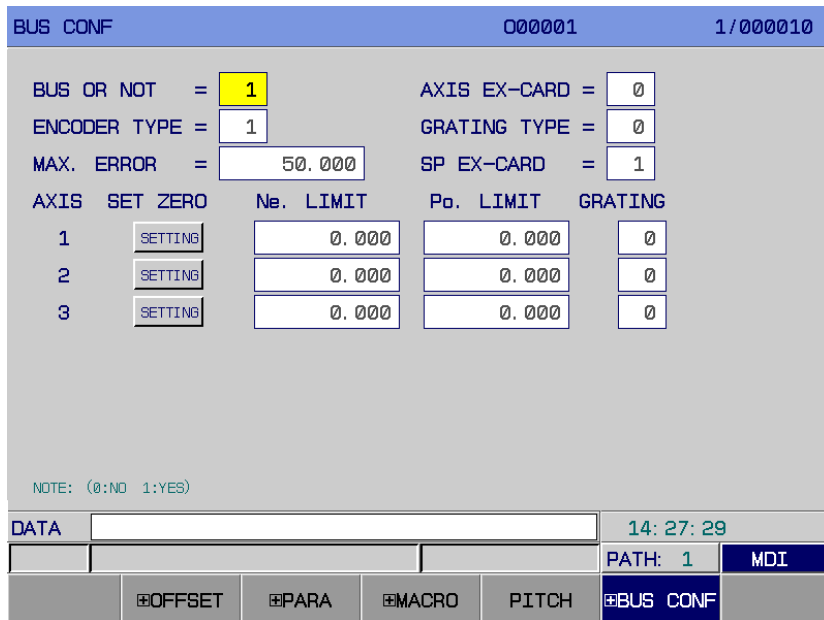

Fig. 1-4-1
4. Enter into to the page to perform the setting together by the [SYSTEM], then the [Bus Configuration] (Refer to the Fig. 1-4-1):